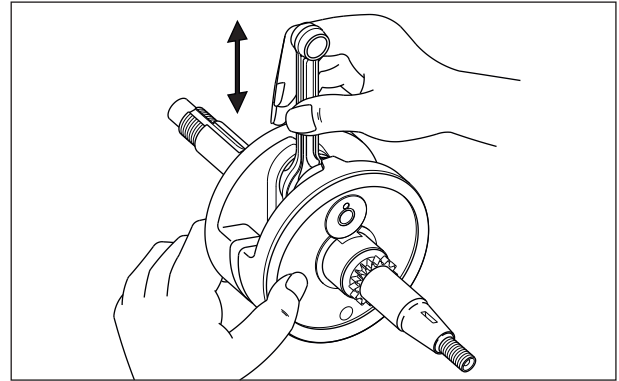

Fig. 3.171
- Hold the crankshaft assembly in hand, shake the connecting rod to find out the radial play. If any play is noticed, then replace the crankshaft assembly with a new one. (Fig. 3.171)